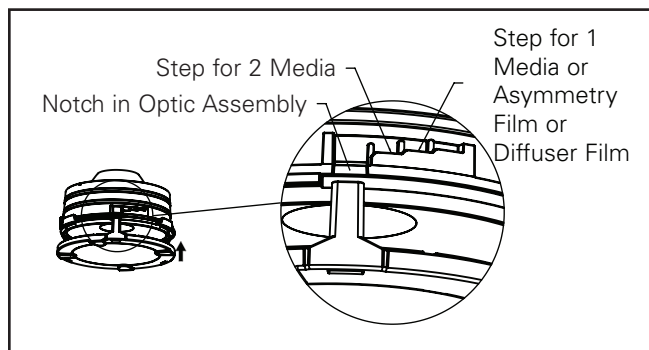

Figure 19
4. Insert media assembly by aligning the media holder tab with the notch in the optic assembly. (Figure 19)
5. Engage snaps at the bottom of the snap staircase. Twist clockwise until tight. (Figure 19 & 20)